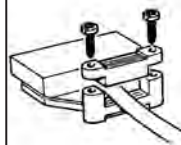
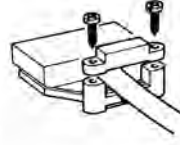

Fig. 5a
Fig. 5b
2. Remove the two cable clamp screws (Fig. 5a and Fig. 5b).